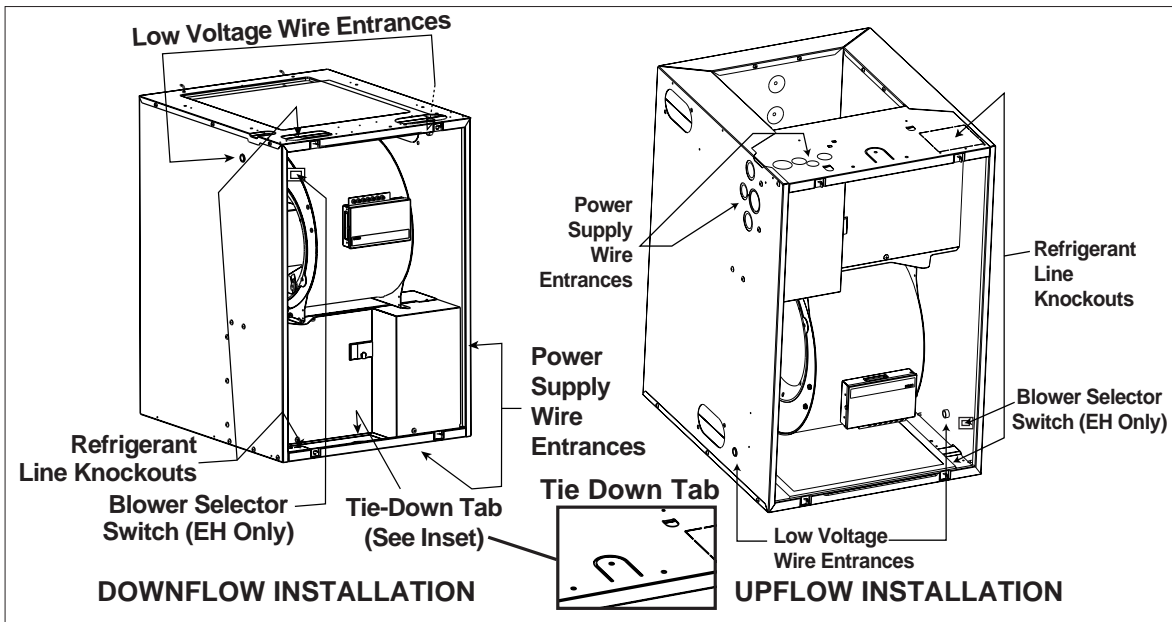

Figure 14. Downflow and Upflow Installations
1. Install 240V supply circuit(s) and 24V wiring to closet or alcove (see Figure 14 for appropriate locations).
4. Secure front of unit with one or more fasteners at mounting hole(s) provided or at tie-down tab (see Figure 14).
3. Install 240V supply circuit(s) and 24V wiring to closet (see Figure 14 for appropriate locations).